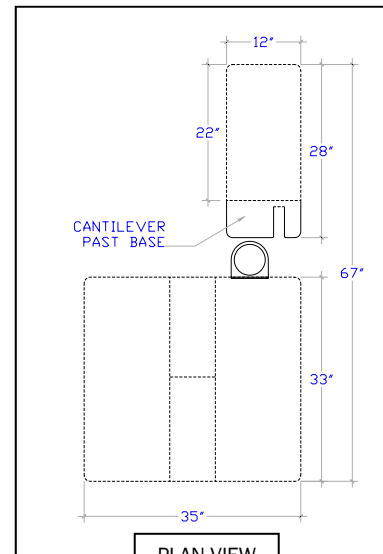

FIG 3
5. Your Weber Screw Feeder and Hopper should be positioned on a base located behind your CSI as shown. (FIG 3) The base should allow the slot on the Vibratory Feeder to cantilever out to allow the screw tube to hang freely without kinking. We recommend a base height of approximately 24" to facilitate easy access to the hopper for filling.